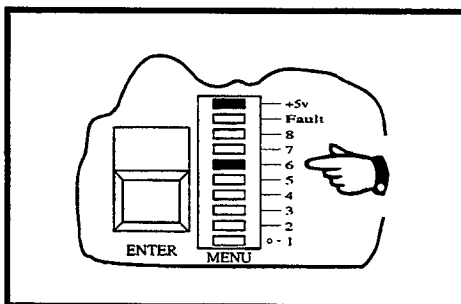

Figure 3-4
- (j) Press the blue **FUNCTION** a number of times until the segment labelled **6** on the **Menu** display illuminates. This segment identifies the 20mA calibration menu option. See Figure 3-4.